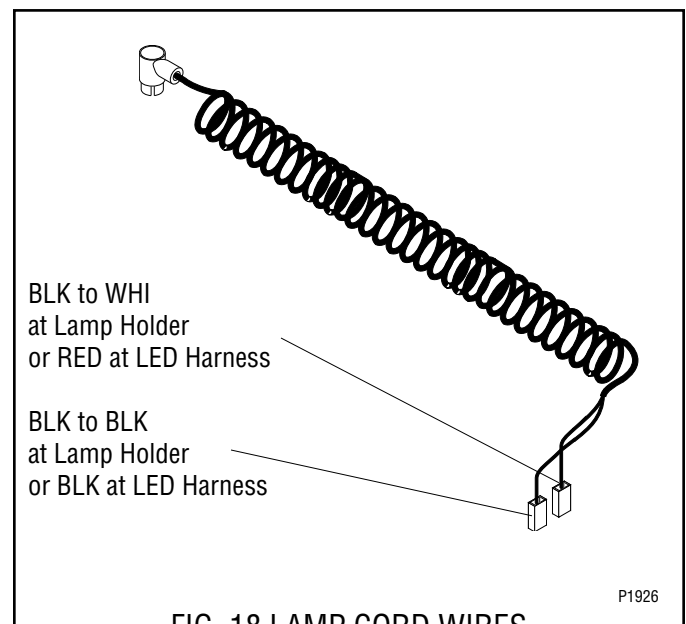

FIG. 18 LAMP CORD WIRES
12. Refer to Fig. 18 when reconnecting the wires.